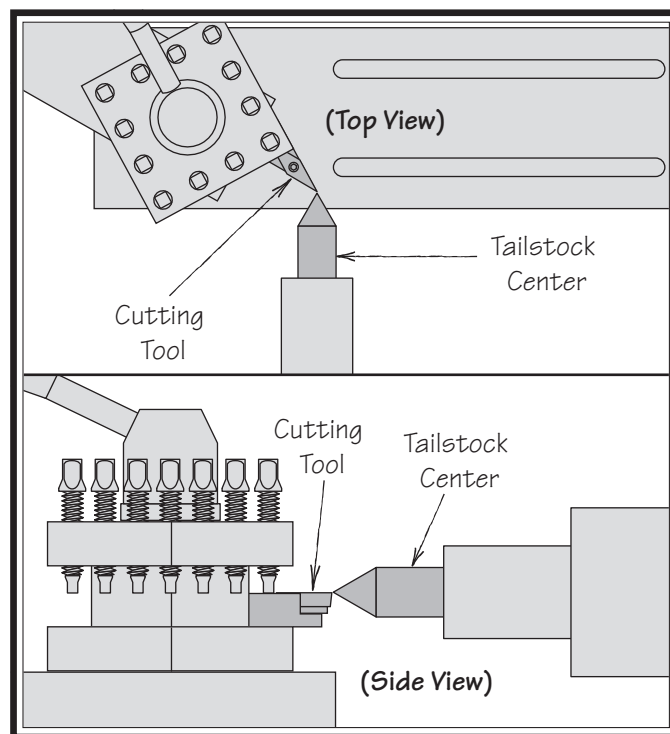

Figure 44. Cutting tool tip aligned with tailstock center.
- Adjust the height of the cutting tool so that the tool tip is aligned vertically and horizontally with the center tip, as illustrated in **Figure 44**.